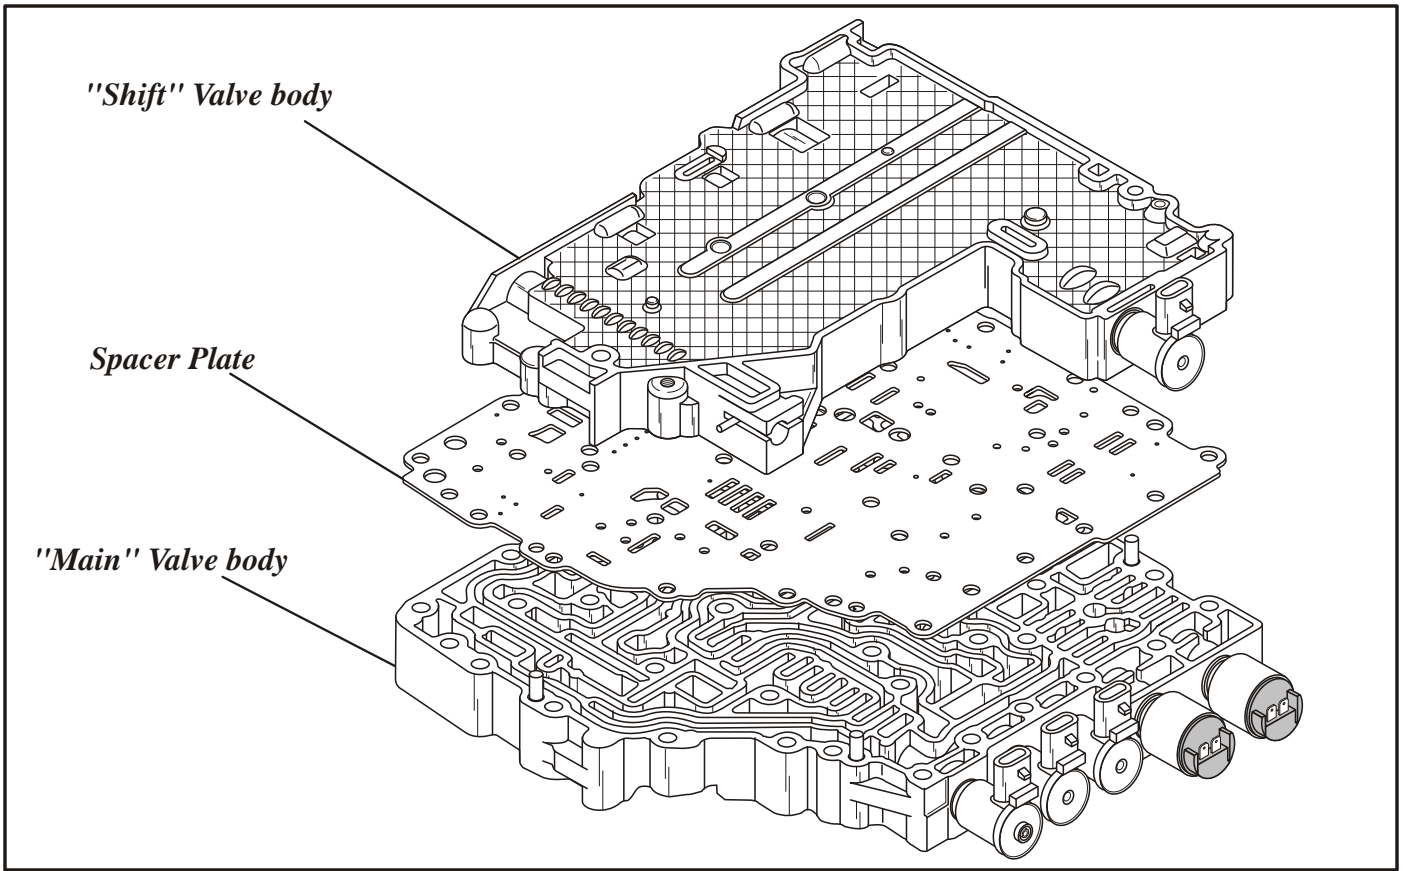

Figure 126
14. Lay the main valve body on flat work surface as shown in Figure 126, and install the spacer plate over the dowel pins.
15. Install the shift valve body on top of the spacer plate and over dowels, as shown in Figure 126.